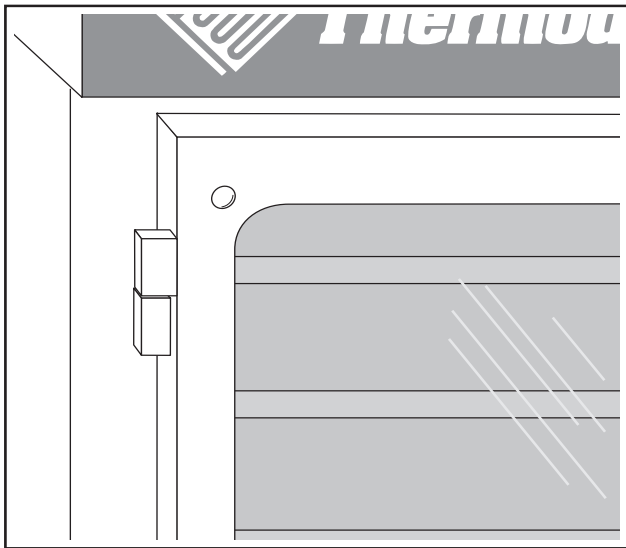

Figure 7. Mounting the doors
7. Mount doors on cabinet as depicted in figure 7.